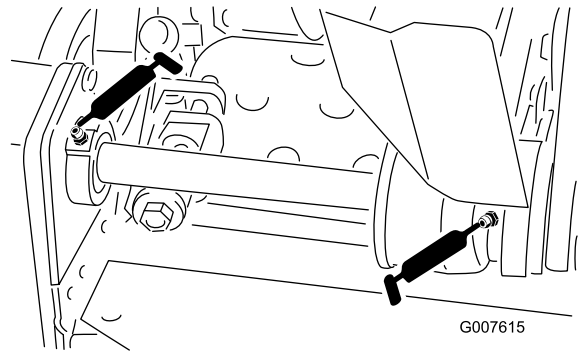

Figure 18
- 2 on the reel counter shaft bearings (Figure 18)